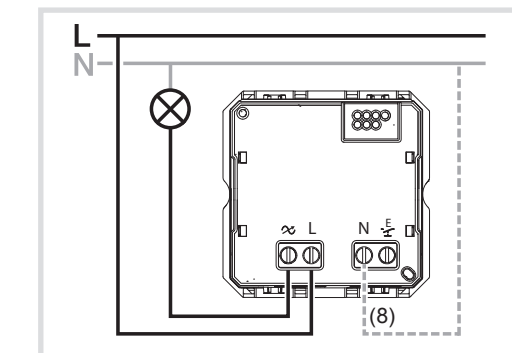

Figure 3: Connecting diagram (basic circuit)
- Insert and snap dimmer module (2) into the supporting ring (1).
- Connect dimmer and optional extension units according to the connecting diagram (Figure 3 to 5).
- Attach touch rocker (3) and frame (4).